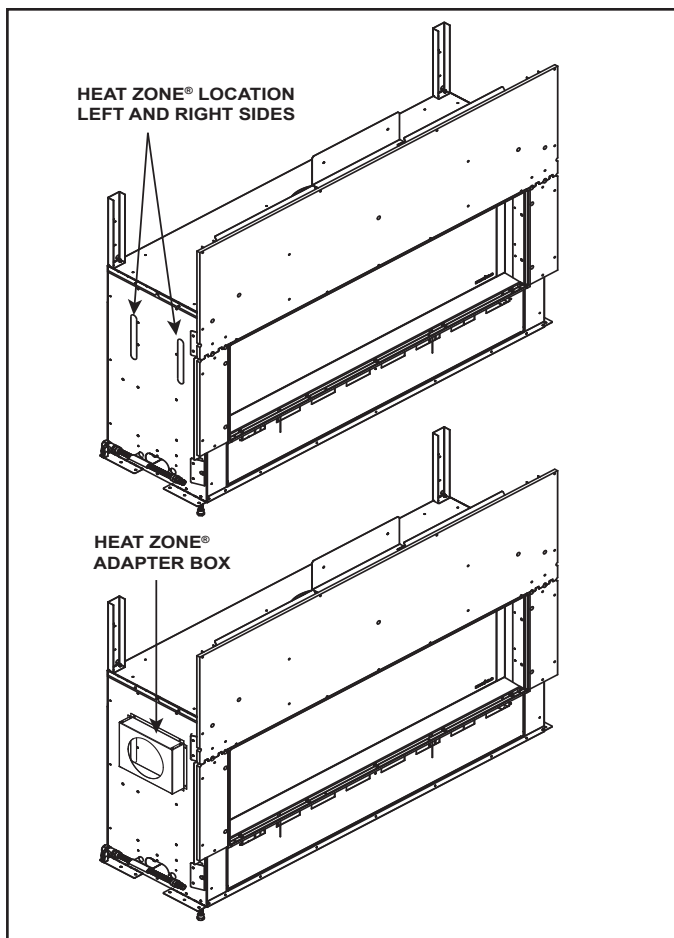

Figure 5.6 Adapter Box
2. Locate the Heat-Zone® ports on the left and right sides of the appliance. See Figure 5.6. Remove the knockouts from the appliance with a tin snips.
3. Place the Heat-Zone® adapter box into position prior to the final positioning of the fireplace as shown in Figure 5.6. Secure using eight self-tapping screws. Ensure the Heat-Zone® knockouts are completely covered by the adapter box.